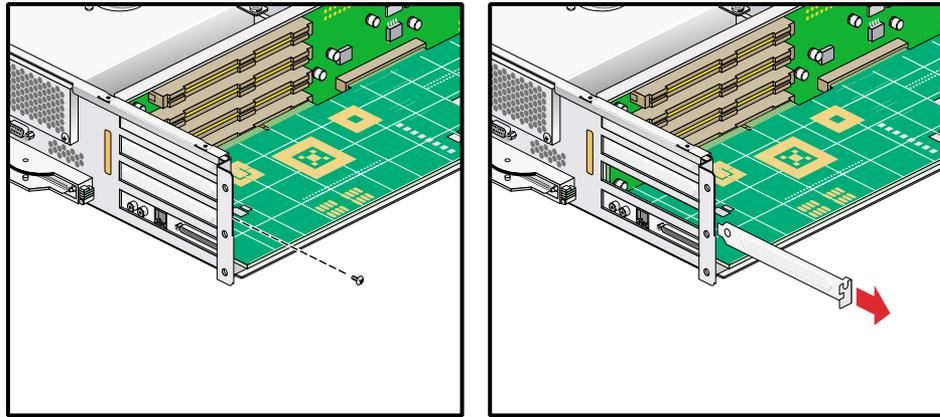

Figure 7-7 Removing a Blanking Plate
- Remove the blanking plate retention screw (see Figure 7-7 on page 114).